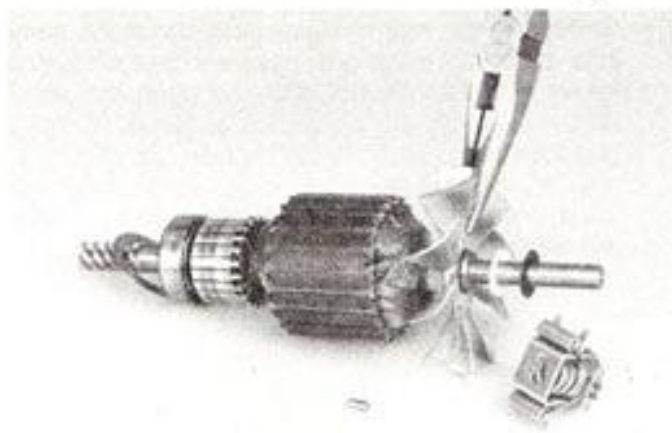
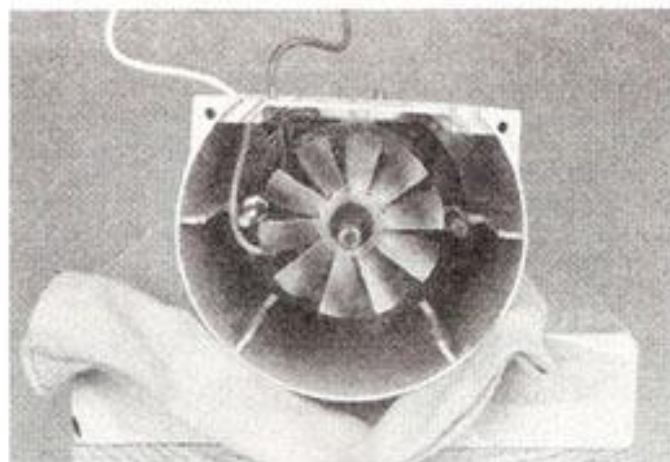

Fig. 39
Fig. 40
- G. Check the ventilating fan. Straighten the blades if they are bent (Fig. 39). If a new armature is replaced, move the washers from the old armature to the fan end of the new one. Oil the worm and shaft and install the armature in the gear case and motor housing (Fig. 40). If necessary, tap end of armature shaft with non-metallic mallet to seat bearing.